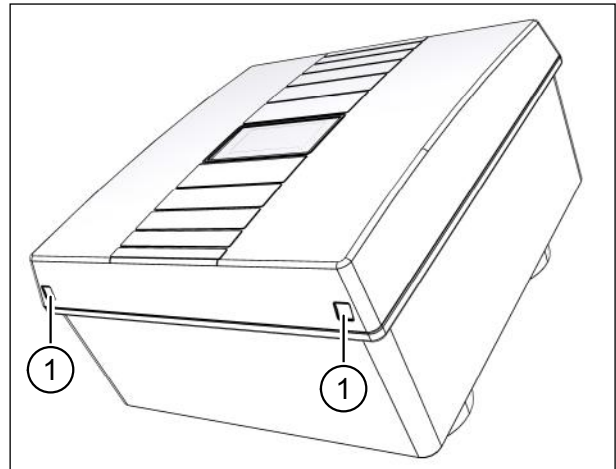

Fig. 22: Removing the cover from the ventilation unit
- ▶ Using both thumbs, press the two latches (item 1 in Fig. 22) on the bottom of the ventilation unit. The cover will come away.